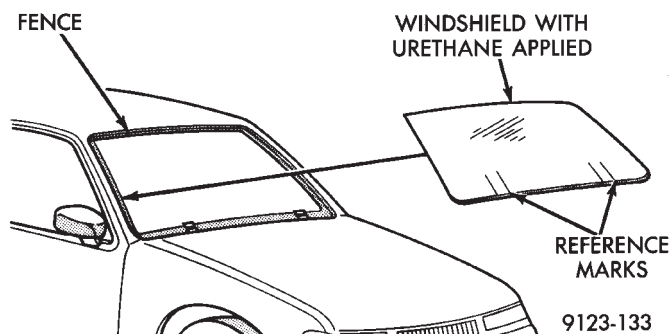

Fig. 6 Lower Windshield Into Position
(8) With the aid of a helper, position the windshield over the windshield opening. Align the reference marks at the bottom of the windshield to the support spacers.
(9) Slowly lower windshield glass to windshield opening fence. Guide the top molding into proper position if necessary. Push windshield inward to fence spacers at bottom and until top molding is flush to roof line (Fig. 6).
(10) Clean access urethane from exterior with Mo-par®, Super Clean or equivalent.
(11) Apply 150 mm (6 in.) lengths of 50 mm (2 in.) masking tape spaced 250 mm (10 in.) apart to hold molding in place until urethane cures.
(12) Install cowl cover and wipers.
(13) Install inside rear view mirror.
(14) After urethane has cured, remove tape strips and water test windshield to verify repair.